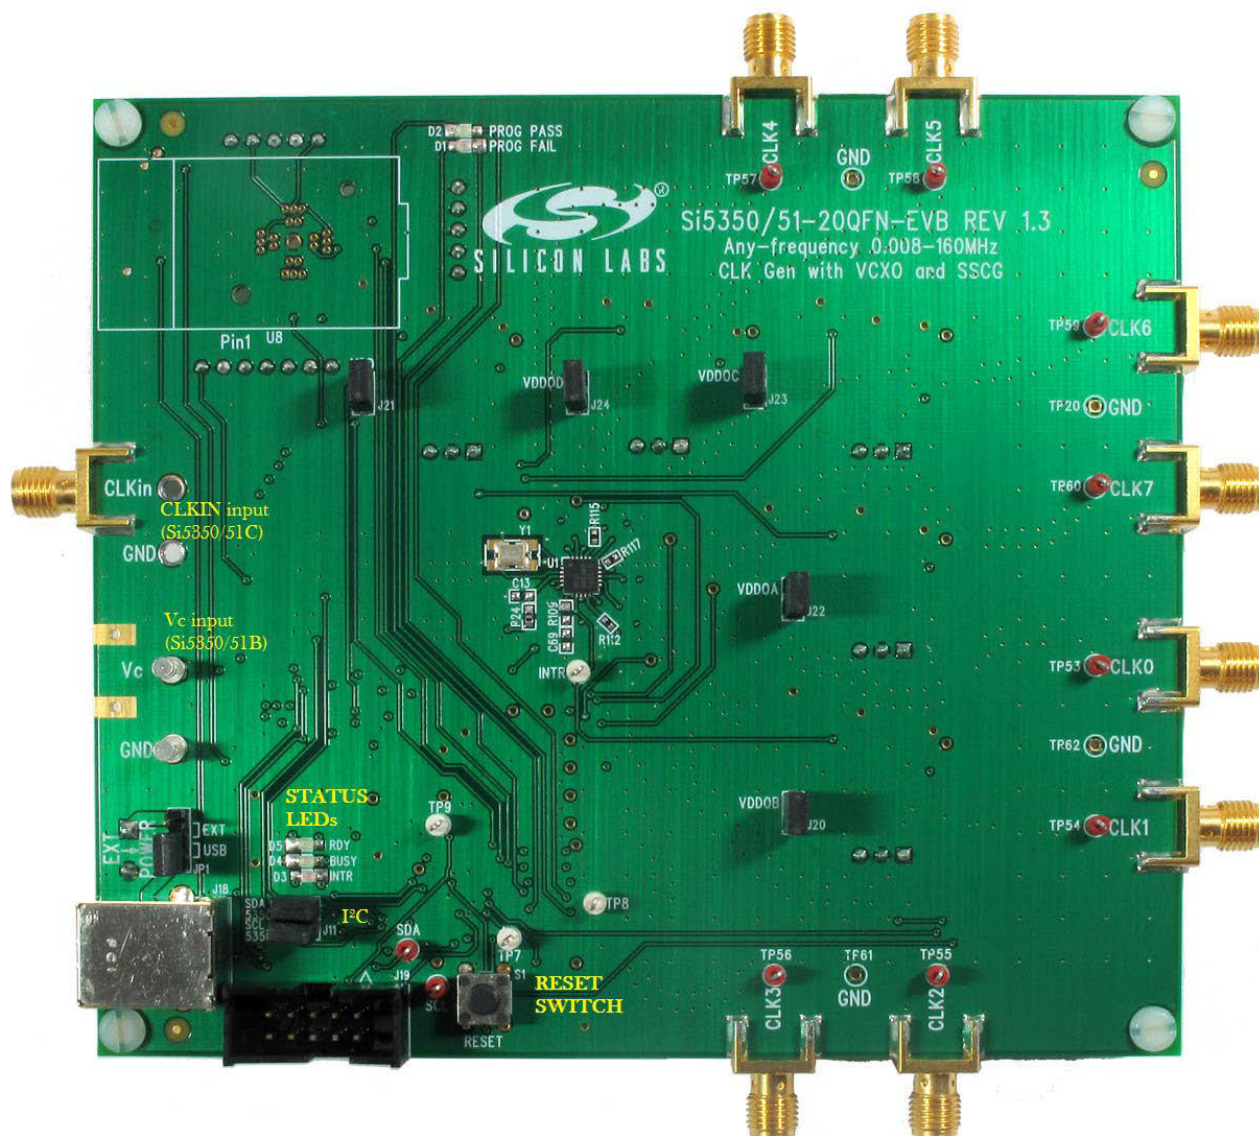

Figure 1. EVB Features (Front)
Figures 1 and 2 highlight the main features of the EVB. The onboard MCU is responsible for programming the Si535x timing IC, measuring the device's current consumption reported in the ClockBuilder™ Desktop, managing power, and controlling status LEDs. VDD and VDDO jumpers allow the option of choosing between 1.8 (VDDO only), 2.5, and 3.3 V or powering the device with external supplies (see Section “2. Jumpers” for details). I²C jumpers allow the Si535x to be disconnected from the I²C bus, allowing external control from another I²C master.
- **EXT POWER**—Allows user to select between 5 V USB supply and 5 V external supply on J17. See Figure 1 for jumper locations.